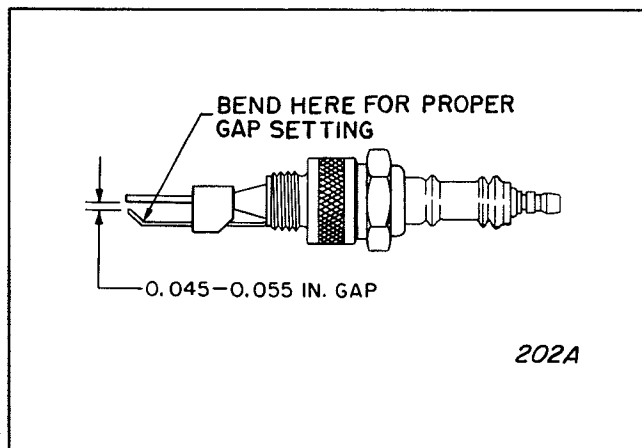

Figure 6. Spark Plug Gap Setting
2. Remove the spark plug from the burner head, and check the gap between the electrodes. The gap must be within the limits shown in Figure 6. This is the thickness of a dime.